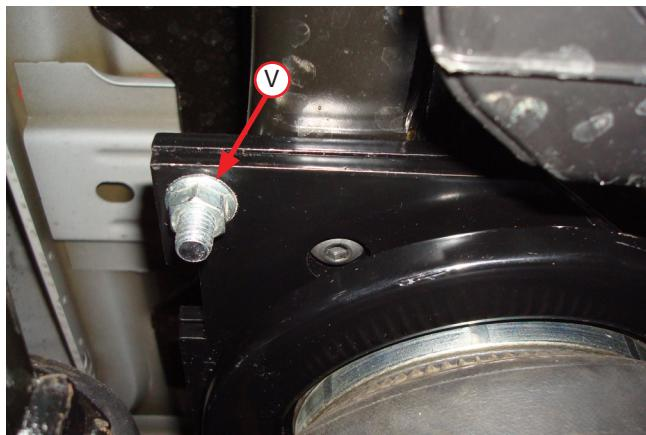

Fig. 31
- Before proceeding, ensure the 90 degree fittings are pointing inboard toward the center of the vehicle. While raising the axle or lowering the body of the vehicle, align the previously installed upper frame bracket carriage bolts (including the one on the air spring bracket) with the air spring bracket/frame brace holes so the carriage bolts protrude. Cap all the carriage bolts with the 3/8" Serrated flange lock nuts (V) (Fig. 31). Snug the bolts down first then torque to 31 lb.-ft. (42Nm).